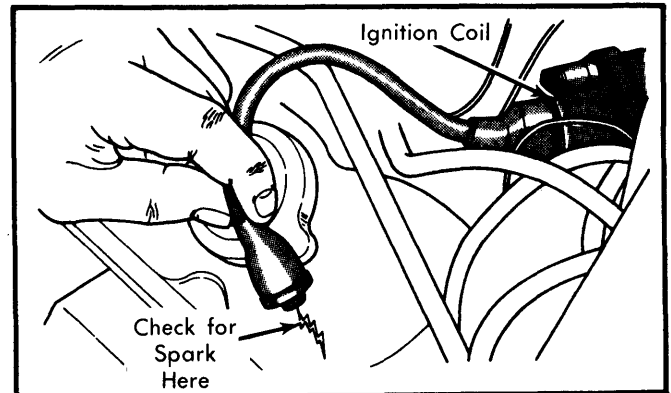

Fig. 2 Testing System for Ignition Spark
1) Remove secondary wire from distributor center tower. Hold end of wire approximately $\frac{3}{8}$ " from a good engine ground. Crank engine and check for a bright blue spark at gap. See Fig. 2.